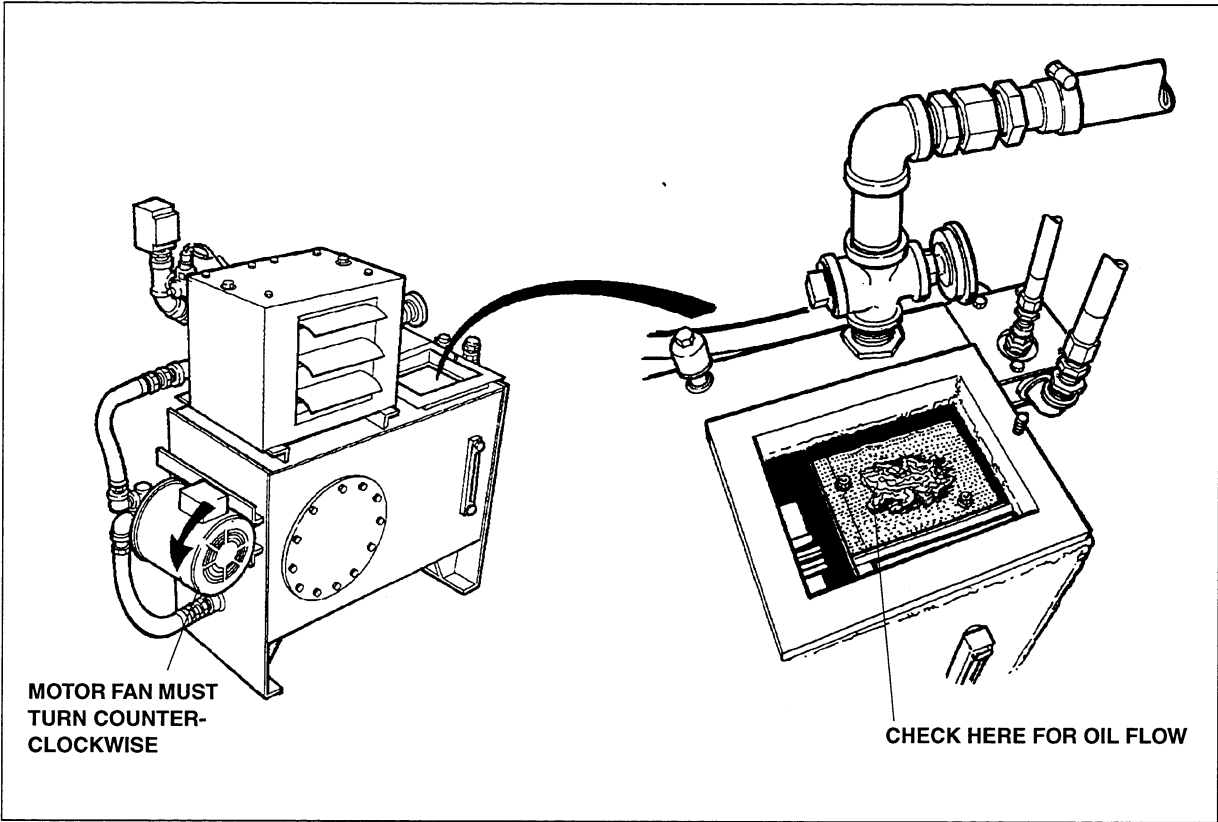

Figure 3-10. Startup Checks - Circulating Oil System
- Check direction of pump motor fan. It must turn **COUNTERCLOCKWISE**. If motor fan is turning in the wrong direction, reverse electrical leads. See Figure 3-10.
- Remove cover and check for return oil flow. See Figure 3-10. If there is no return oil flow, check pump motor fan direction again. Motor fan must turn **COUNTERCLOCKWISE**.